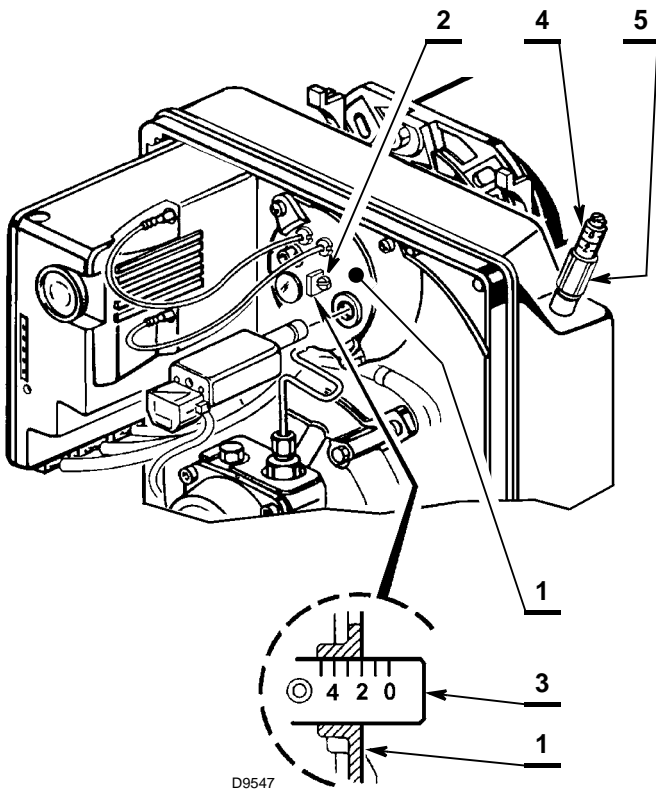

Fig. 16
- turn adjusting screw 2) (Fig. 16) clockwise or anticlockwise until the notch on the regulating rod 3) is lined up with the outer surface of the nozzle-holder assembly 1).
- loosen nut 5) (Fig. 16) and set the valve by adjusting the screw 4).